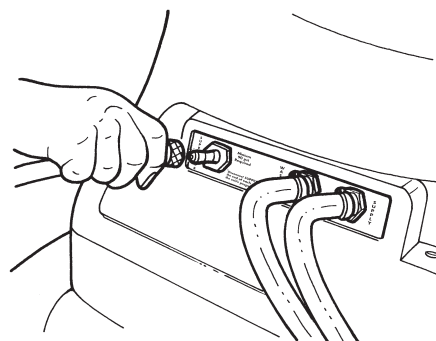

Figure 5
8. Connect a shop air supply hose to the quick-disconnect on the rear panel marked SUPPLY AIR. See Figure 5.